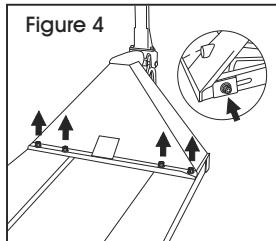

Figure 4
2. Loosen the screws on the front and back of each fork of the truck. (See Figure 4)